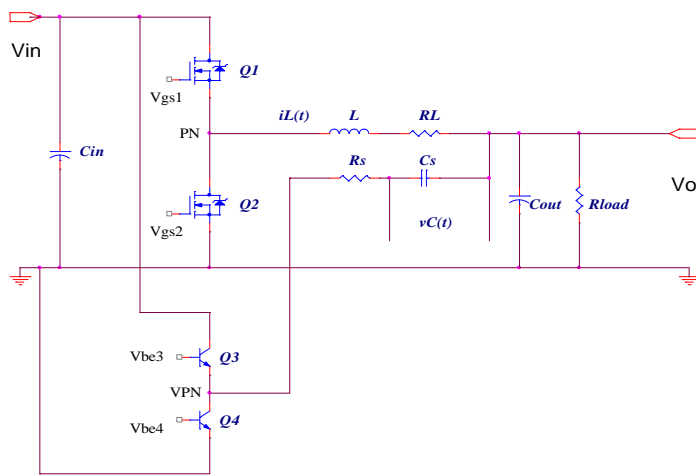

Fig.1 The Basic Structure of Combi-Sense.
The basic structure of the Combi-Sense is shown in Fig.1. Where  $R_L$  is the equivalent resistance of the output inductor. The added  $R_s$  and  $C_s$  form the RC branch in “parallel” with the output inductor for inductor current sensing. This branch works with a small signal totem pole (Q3 and Q4) integrated in SC4510 in order to improve the signal-to-noise ratio. The base signals Vbe3 and Vbe4 are designed to closely follow the gate signals Vgs1 and Vgs2, respectively. Ideally, the leading and falling edges of the Virtual Phase Node (VPN) follow that of the Phase Node (PH) when Q1~Q4 switch in perfect synchronism.
When Q1/Q3 turn ON and Q2/Q4 turn OFF, the equivalent circuit of Fig.1 is shown in Fig. 2a). Where,  $R_{ds1}$  is the on-resistance of the top MOSFET. The two branches, consisting of  $\{(R_{ds1}+RL), L\}$  and  $\{R_s, C_s\}$ , are in parallel. The DC voltage drop  $(R_{ds1}+RL)I_o$  equals  $V_{cs}$ . In this way, the output current is sensed from  $V_{cs}$  when  $(R_{ds1}+RL)$  is known.
When Q1/Q3 turn OFF and Q2/Q4 turn ON, the equivalent circuit of Fig.1 becomes the sub-circuit as shown in Fig. 2b). Where  $R_{ds2}$  is the channel resistance of the bottom MOSFET. In this case, the branch  $\{R_s, C_s\}$  is in parallel with  $\{(R_{ds2}+RL), L\}$  and  $V_{cs}=(R_{ds2}+RL)I_o$ .
In SC4510, the current limiting is performed on cycle-by-cycle basis. When the voltage difference between CS+ and CS- exceeds 65 mV, the top MOSFET duty ratio is clipped in order to limit the output source current. Similarly, when the voltage difference between CS- and CS+ exceeds 113 mV, the bottom MOSFET duty ratio is clipped in order to limit the sink current. For the configuration in Fig.1, the convertor output current limit is set around